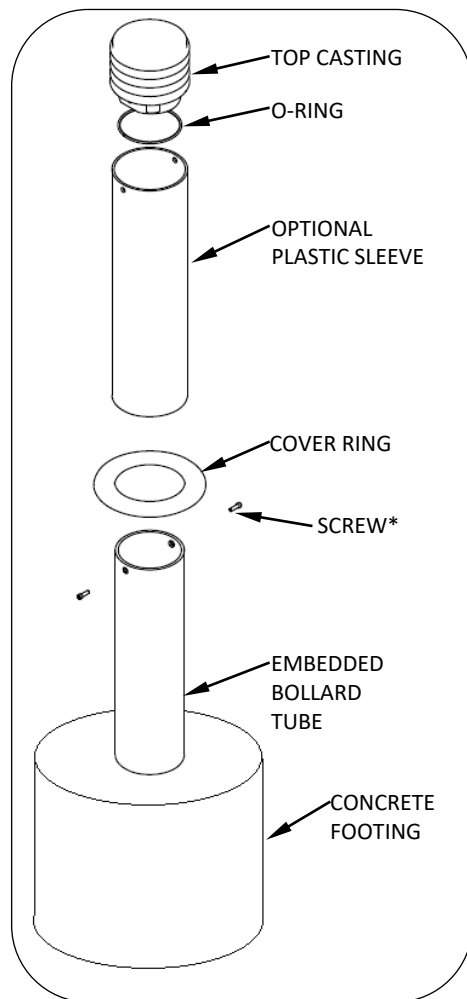
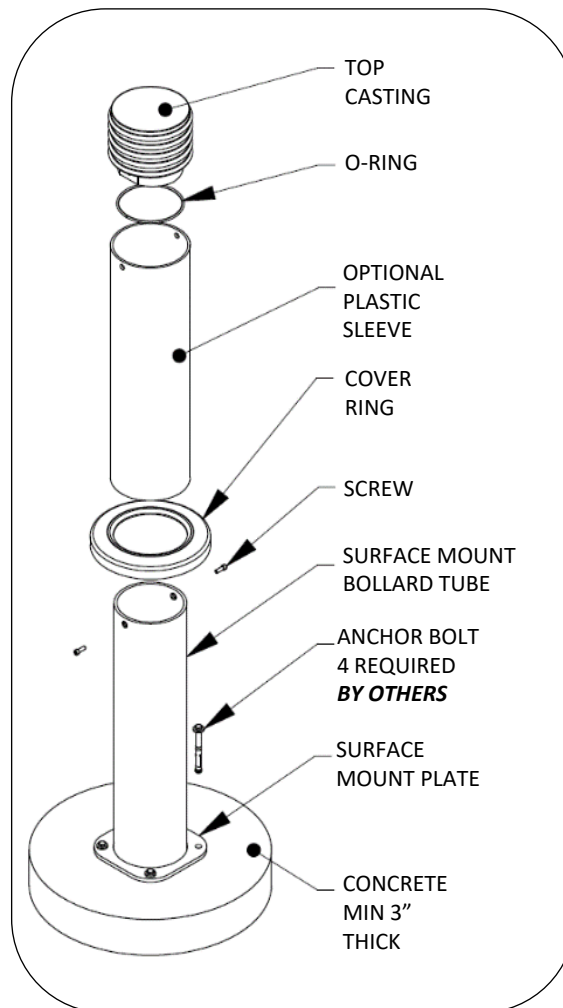

FIG. 1 - EMBEDDED BOLLARD ASSEMBLY
FIG. 5 - SURFACE MOUNT BOLLARD ASSEMBLY
1. Remove top retaining screws, top casting, optional plastic sleeve, and cover ring from bollard to be mounted. See Fig. 1 and Fig. 5.